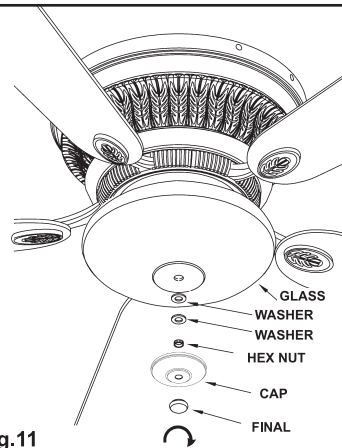

Fig.11
Step 5. Install the glass shade and secure with the the cap & the washers, nut and finial previously removed. (Fig. 11)